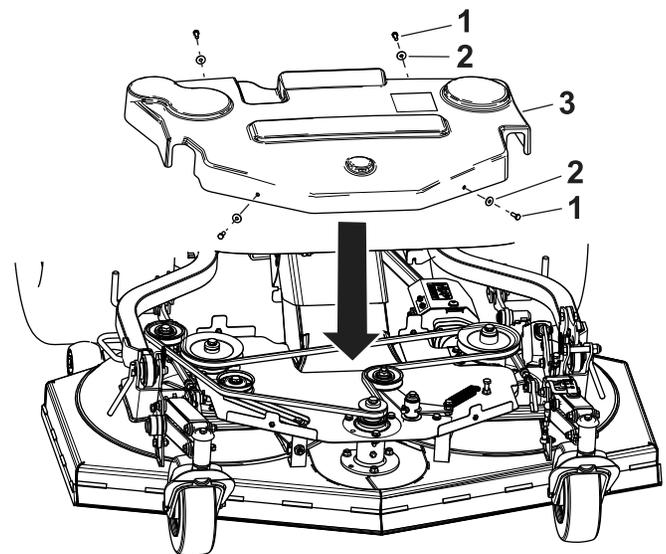

Figure 94
1. Remove the 2 bolts and washers on the front of the cover (Figure 94).
2. Remove the 2 bolts and washers on the back of the cover (Figure 94).
1. Install the cover over the belt (Figure 94).
2. Install the 2 bolts and washers on the front of the cover (Figure 94).
3. Install the 2 bolts and washers on the back of the cover (Figure 94).